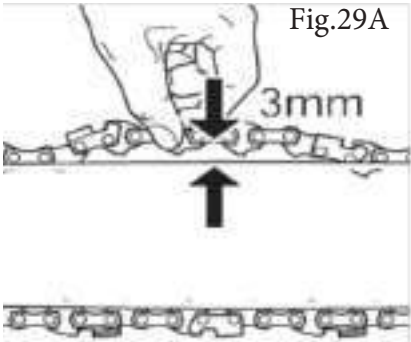

Fig.29A
Check the saw chain tension. The tension is correct when the saw chain snaps back after being pulled away 3 mm from the saw chain bar with light force from the middle finger and thumb. There should be no 'sag' between the guide bar and the saw chain on the underside. (Fig.29A)
- d) Check the tension level by pulling the chain 3mm away from the guide bar with light force. Your chain is at the correct level of tension if there is no “sag” between the guide bar and chain on the underside. (Fig. 29A)